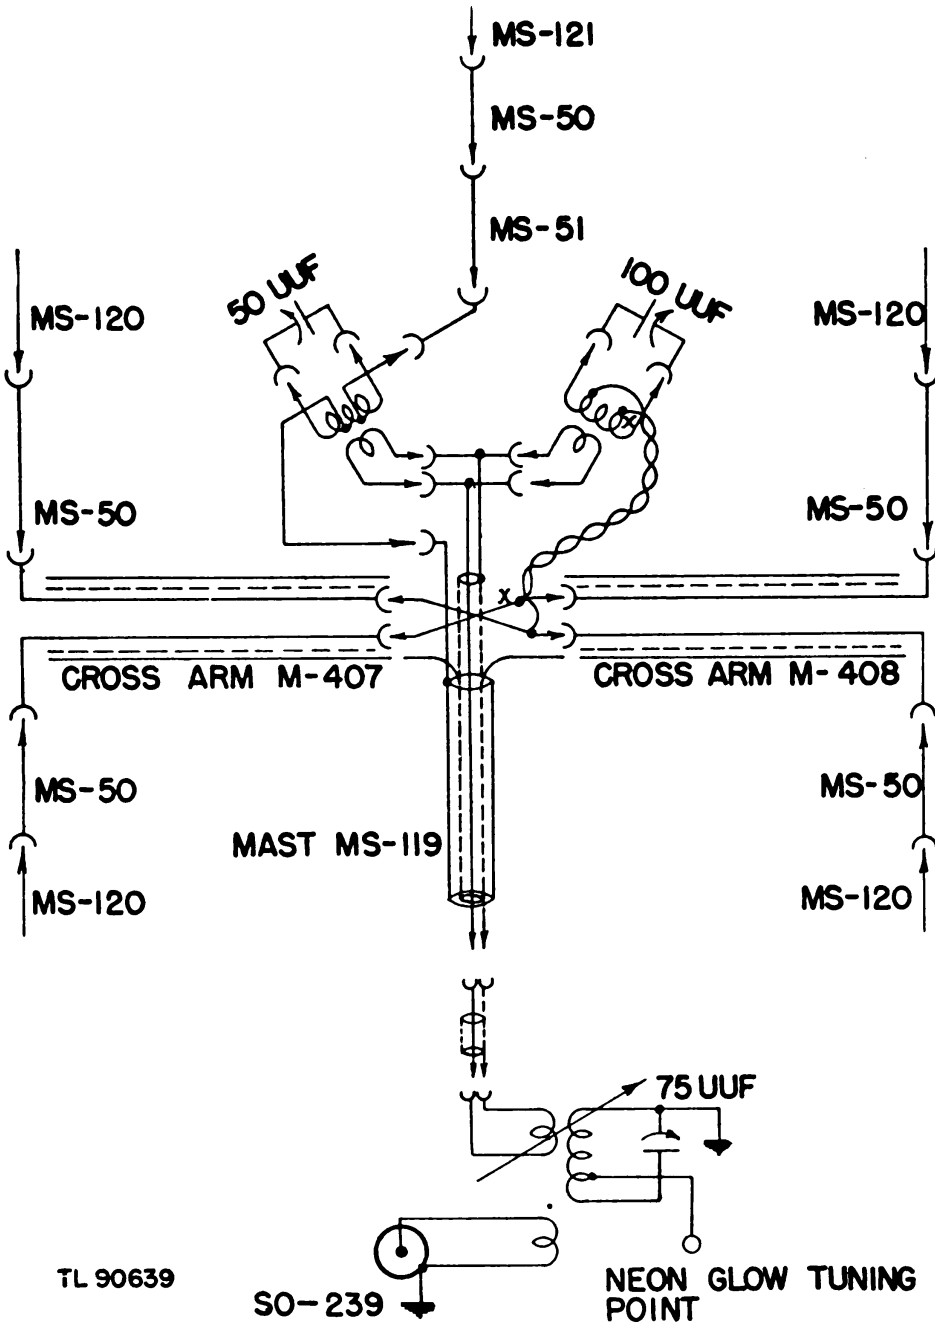

Figure 35. Schematic diagram of antenna array.
*b.* The output of the transmitter of Radio Set SCR-508-( $\&$ ) or Radio Set SCR-608-( $\&$ ) is carried through a coaxial r-f line into an antenna-coupler or resonance tuner. A stationary link terminates the transmitter output and provides an inductive r-f source coupled to a stationary secondary winding. This antenna coupler, when tuned to resonance, provides ample r-f energy to energize a loosely coupled rotating link. The link, mounted by a connector, is fixed in axis and carries the r-f energy through the beacon rotating stub axle. The stub axle is engaged by the mast which has a continuation of the r-f coaxial line. The center portion of the mast acts as a physical support for the array, and the insulated portion also radiates as a part of the vertical dipole output (fig. 35).
**39. RESONANCE TUNER BC-1305.** (fig. 35). The electrical components of the resonance tuner consists of a 2-inch phenolic form, mounted by an 8-32 screw and nut. Oversized mounting holes allow centering the rotating link in the form. The form has two windings. Two turns of No. 18 copper wire are used as an inductive termination load for Radio Set SCR-508-(&) or SCR-608-(&). This inductive termination winding is wound close to a 4-turn No. 16 copper wire secondary, tuned by a 75-u uf variable capacitor. The secondary provides a concentrated r-f radiating tank circuit for the 2-turn rotating link which rotates within the form. A connection at a high-voltage point of the secondary winding terminates in a screw head in a circular piece of polystyrene insulation and provides a point of contact for neon glow lamp tuning (fig. 14).